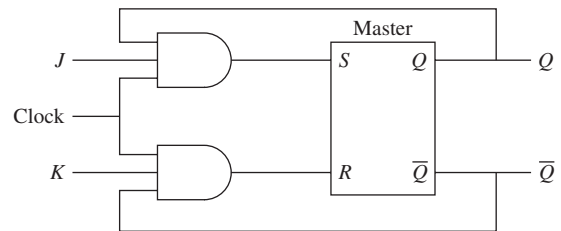

FIGURE P10.59 JK flip-flop for Problem 10.59.
10.59 (B) For the JK flip-flop shown in Figure P10.59, the current values of J and K are $J = 0$, $K = 0$, and $Q = 0$. What is the value of Q when J changes to 1, and K changes to 0 on the arrival of another clock pulse?
10.72 (H) For the JK flip-flop shown in Figure P10.59, the current values of J and K are $J = 0$, $K = 0$, and $Q = 0$. Use PSpice to set up the digital logic circuit. The JK flip-flop circuit can be obtained from part “JKFF” in the DIG_PRIM library. Solution